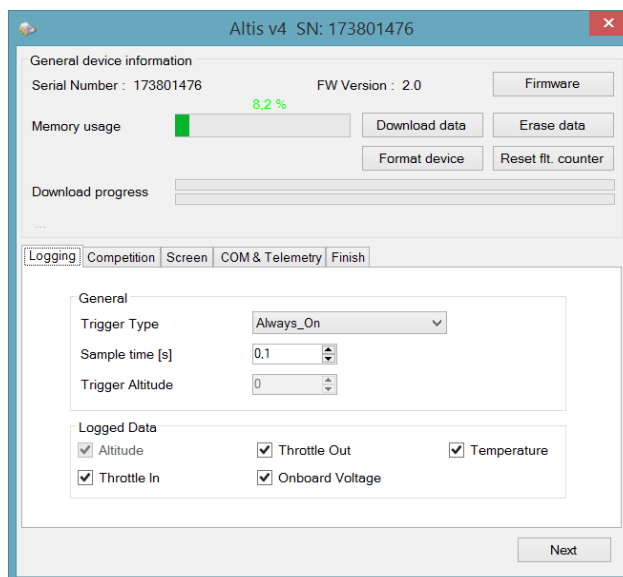

Fig 9: Logging settings
**Logging Settings** (Fig 9) – Here you can set how you wish to store the flight parameters to your device memory. The basic parameter, Sample time, determines how frequently the parameters will be logged.